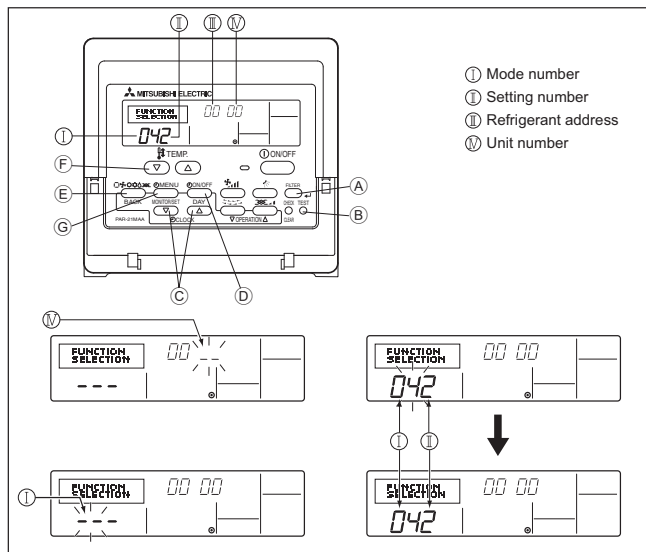

Fig. 6-10
1) For wired remote controller (Fig. 6-10)